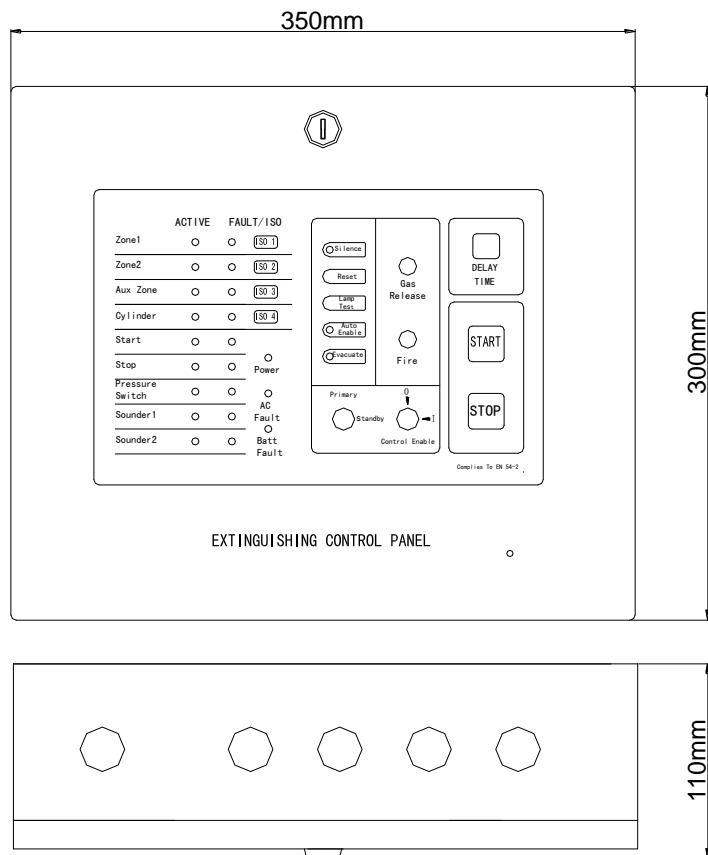

Fig. 1 Appearance
- 1 The panel is wall-mounted. It mainly consists of a cabinet, a main board, a display board, and a transformer. Its structure is shown in Fig. 1.